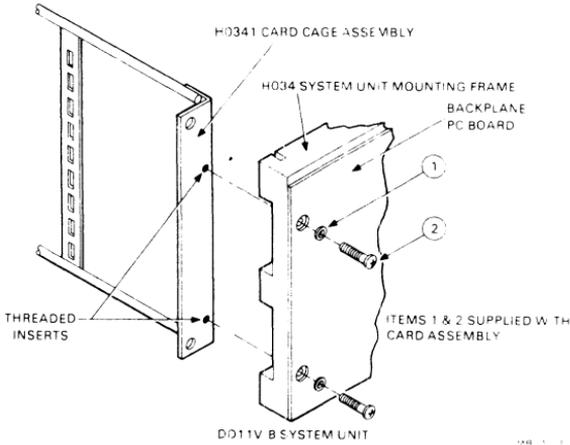

Figure 4-18 H0341 Card Assembly Installation
The H0341 card assembly is supplied with the hardware necessary to mount to the H034 mounting frame. Figure 4-18 shows the method of assembly. Two screws (item 2) and two washers (item 1) are inserted through the clearance holes of the PC board and H034 mounting frame and into the two threaded inserts on each bracket of the card assembly. The card assembly provides nylon guides which help to guide and support the modules installed in the system unit.